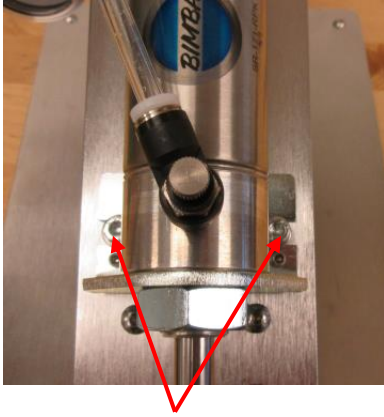

Figure 8: Front cylinder bracket screws
- Remove the two front cylinder bracket screws and rotate the cylinder up. (Fig 8,9)